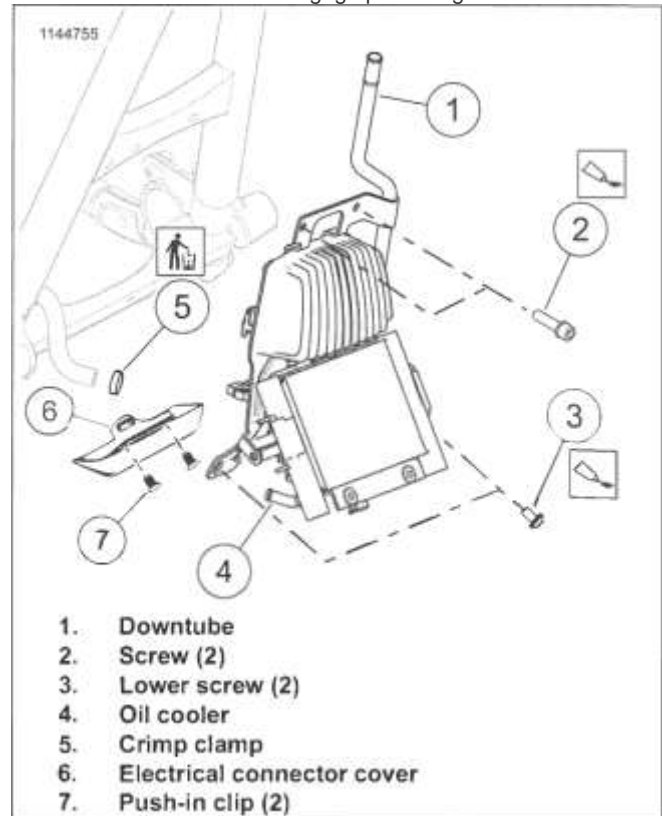

Figure 4-11. Oil Downtube Assembly
2. Remove and discard clamp (5). See CRIMP CLAMPS (Page 4-16).
4. See Figure 4-11. Disconnect hoses from oil cooler (4) and upper end of downtube (1).
2. Install new clamp (5) on hose.
3. See Figure 4-11. Install downtube assembly.